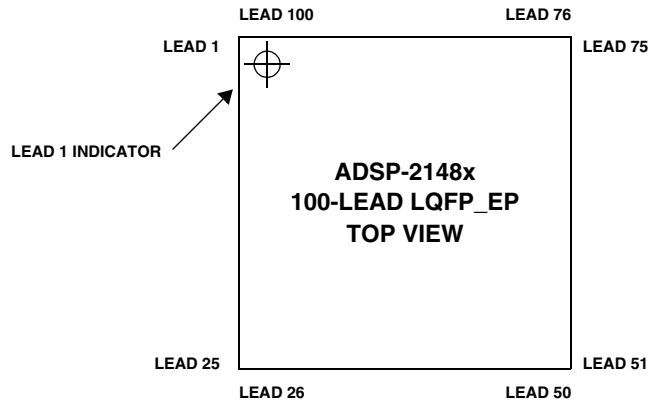
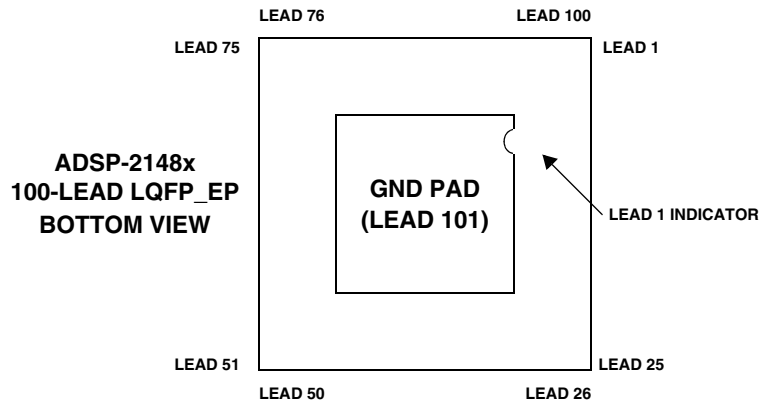

Figure 49. 100-Lead LQFP_EP Lead Configuration (Top View)
Figure 50. 100-Lead LQFP_EP Lead Configuration (Bottom View)
** Pin no. 101 (exposed pad) is the GND supply (see Figure 49 and Figure 50) for the processor; this pad must be **robustly** connected to GND.
Figure 49 shows the top view of the 100-lead LQFP_EP lead configuration. Figure 50 shows the bottom view of the 100-lead LQFP_EP lead configuration.